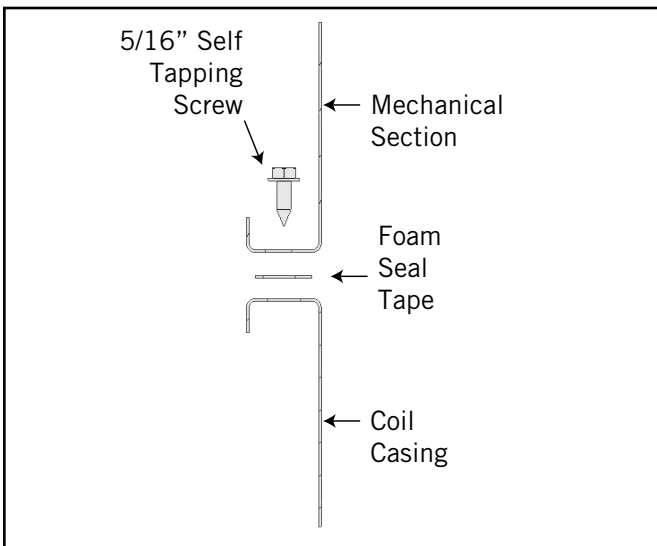

Figure 8 – Mechanical/Coil Casing Assembly for Optional Three-Piece Rigging
16. As illustrated in Figure 8, secure the mechanical section to the coil casing section using the 5/16" self-tapping screws provided.